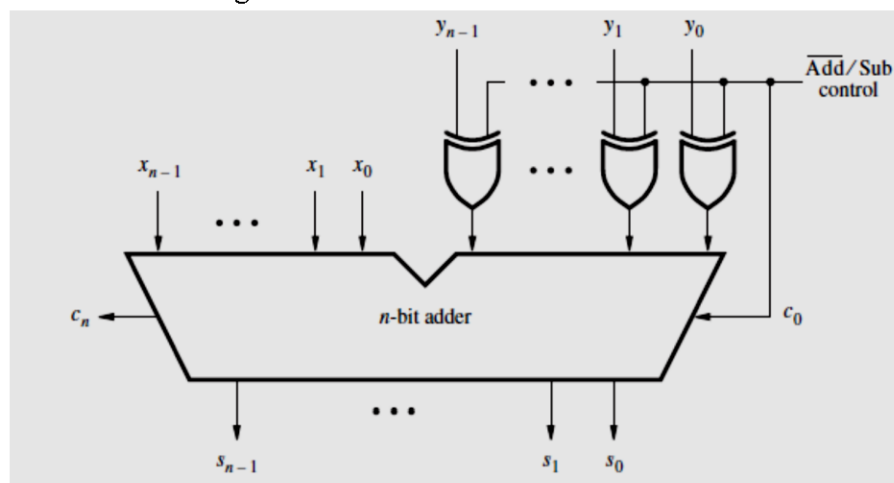

Figure 4.2 Adder/subtractor unit
- The circuit is shown in Fig. 4.2